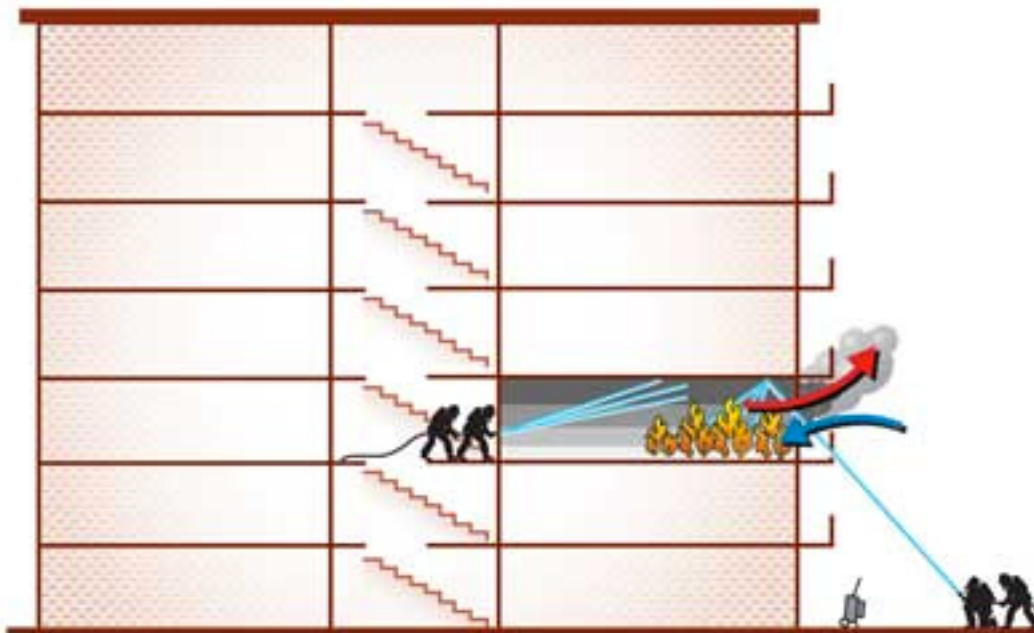

Figure 3. Gas Cooling and Transitional Attack
**3. Gas cooling from the entrance door.** As soon as the attack team reaches the entrance door, it applies a fog pattern stream from the outside. The door remains open just for the short time the nozzleman needs to apply water. Short pulsing has proven to have a limited reach. In underventilated fire conditions with no clear layer at the bottom, disrupting the thermal balance should not be an issue; therefore, a narrower cone, deeper reach, and longer and oscillating pulsing would be more effective (Figure 3).